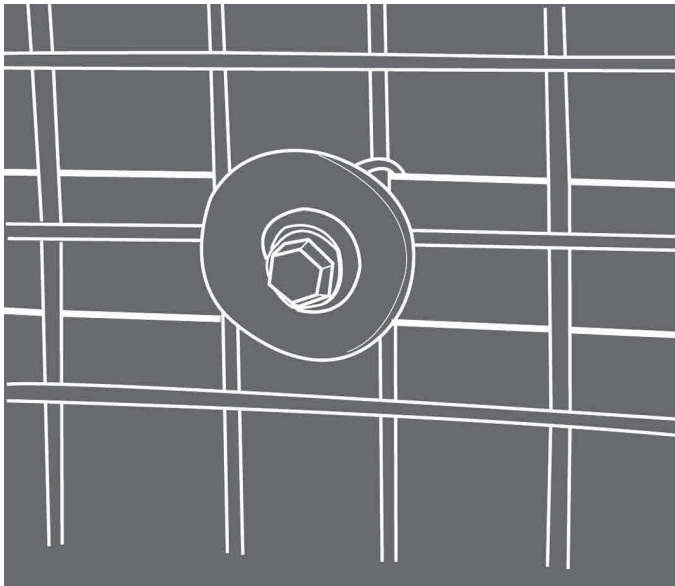

Figure 6: Fixing light mesh
- Galvanised welded mesh is rust-proof and available in a wide range of sizes and gauges. The maximum mesh size recommended for cat enclosures is 50 x 50 mm. A well-fixed four-gauge mesh will provide reasonable security for your enclosure and is strong enough to support climbing plants should you wish to add them. Metal mesh is fixed to the timber posts and timber rails with staples or washers and Tec screws depending on mesh sizes and loading. See Figure 6. Light flexible mesh is held in position with a timber batten nailed to posts or your existing structure (eg house or fence). Ask your mesh supplier to advise on the optimum fixing method for your application.